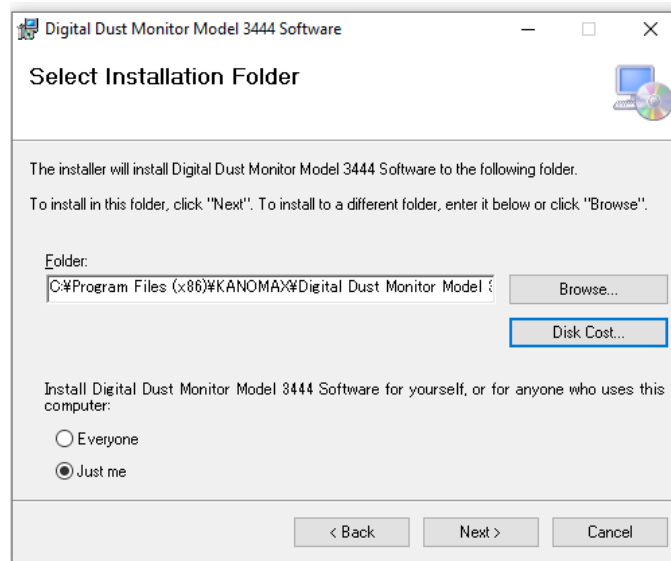

Figure 2-2 Installation folder selection screen
- 2) Click Next (N) to display Figure 2-2. The standard installation destination is C drive, but "Reference (R)"